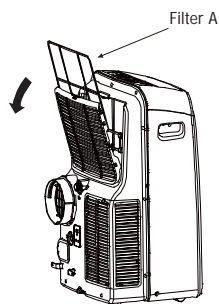

Fig. 24
- This unit has two filters, they are filter A and B. Grasp the upper panel tab and take off the filter A which is behind the grill of the back panel (Fig.24). Remove the lower filter B by loosening the screws. Take down the air inlet grille, then remove the air filter as shown in Fig.25 & 26.